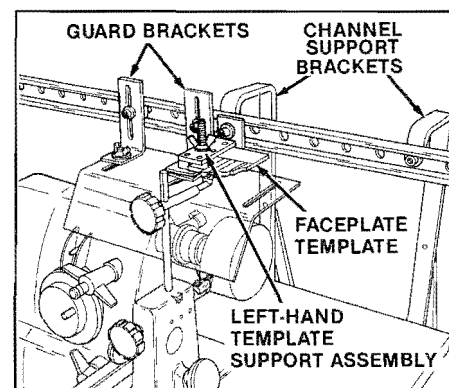

Figure 19. Faceplate Setup.
1. Set up the duplicator for faceplate turning according to the following procedures: (See Figure 19.)